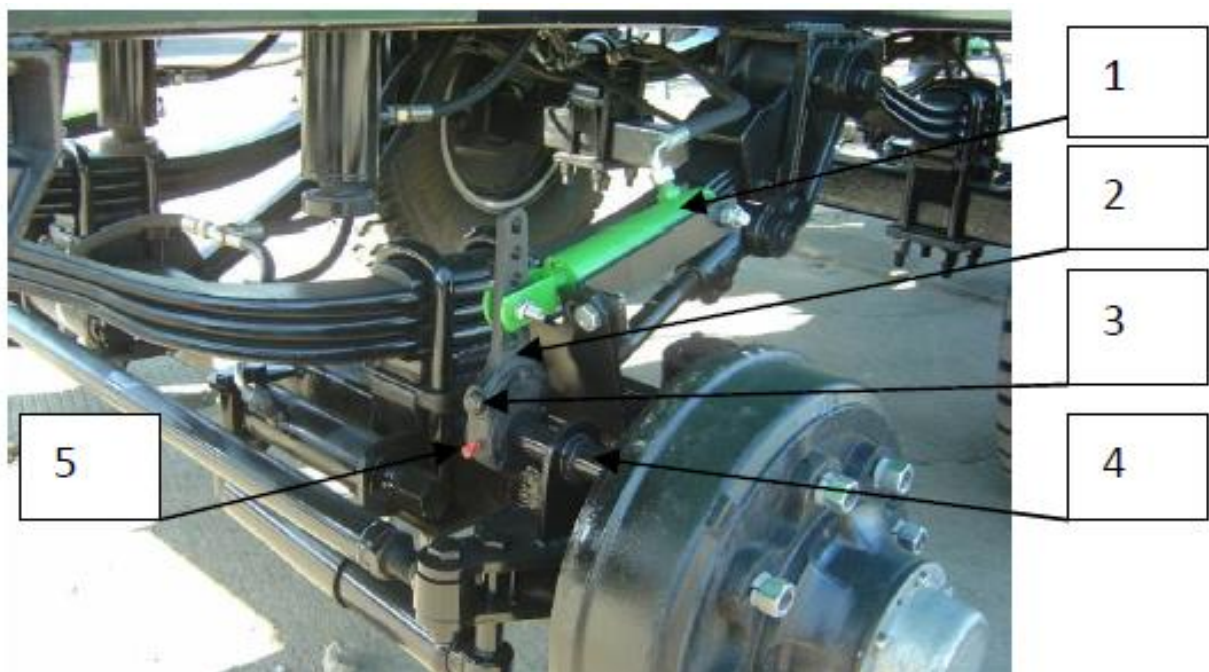

Fig. 7.16. Elements of the braking system. 1 -braking hydraulic cylinder; 2 - leveler; 3 - adjustment bolt; 4 - cam shaft; 5 - lubrication point.
- while rotating the wheel, also turn the adjustment bolt 3 (Figure. 7.16) until the braking blocks touch the drum.